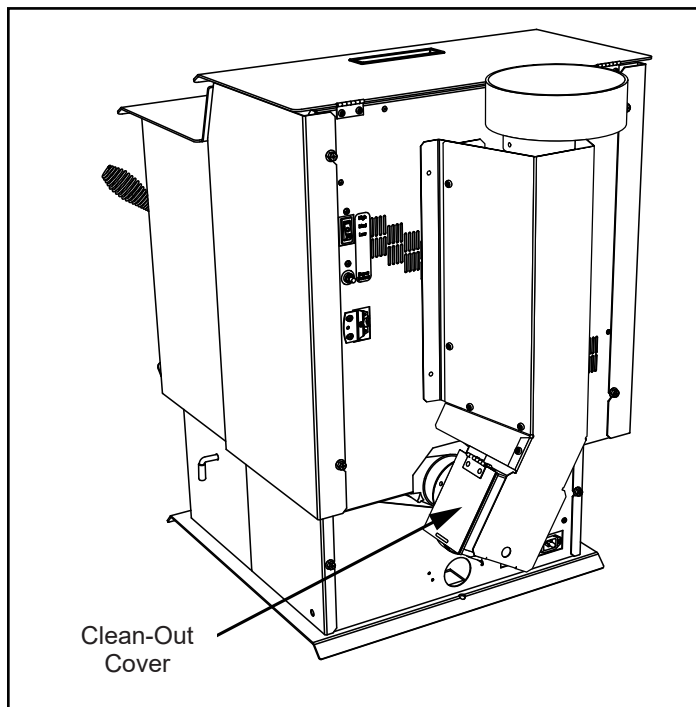

Figure 19.1
- b. Open the clean-out cover (**Figure 19.1**).